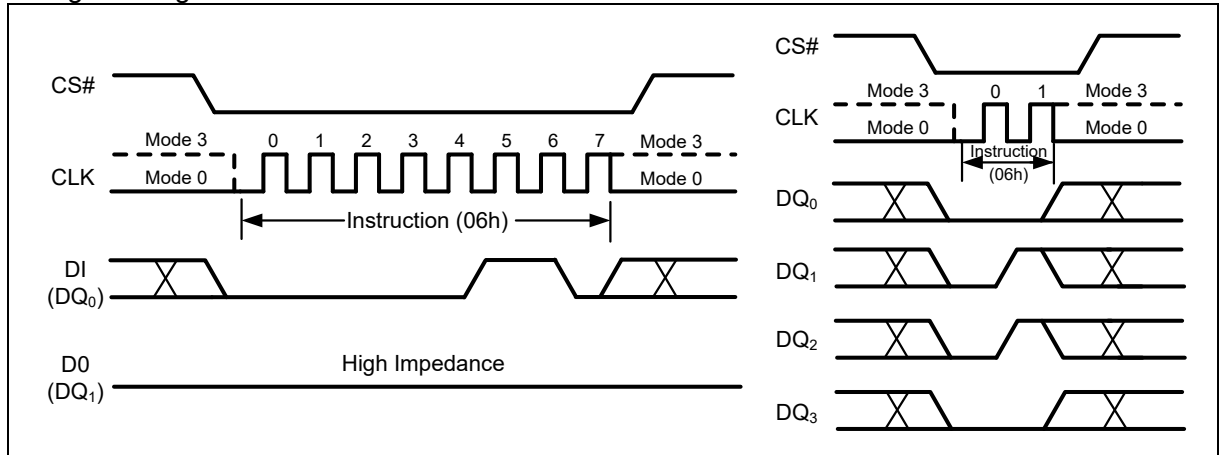

Figure 6 Write Enable Instruction for SPI Mode (left) or QPI Mode (right)
The Write Enable (WREN) instruction (Figure 6) sets the Write Enable Latch (WEL) bit in the Status Register to a1. The WEL bit must be set prior to every Page Program, Quad Page Program, Sector Erase, Block Erase, Chip Erase, Write Status Register and Erase/Program Security Sectors instruction. The Write Enable (WREN) instruction is entered by driving CS# low, shifting the instruction code “06h” into the Data Input (DI) pin on the rising edge of CLK, and then driving CS# high.